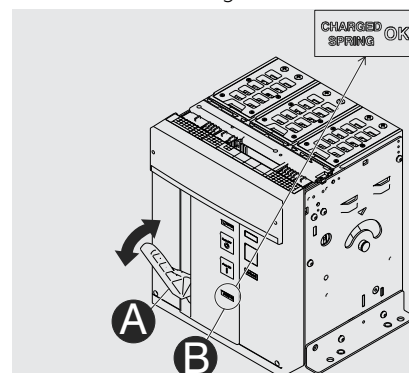

Figure 75
2. Charging the springs - Pull the lever [A] downwards several times until the springs charged signalling device [B] is "yellow - CHARGED SPRING" as indicated in Figure 75.